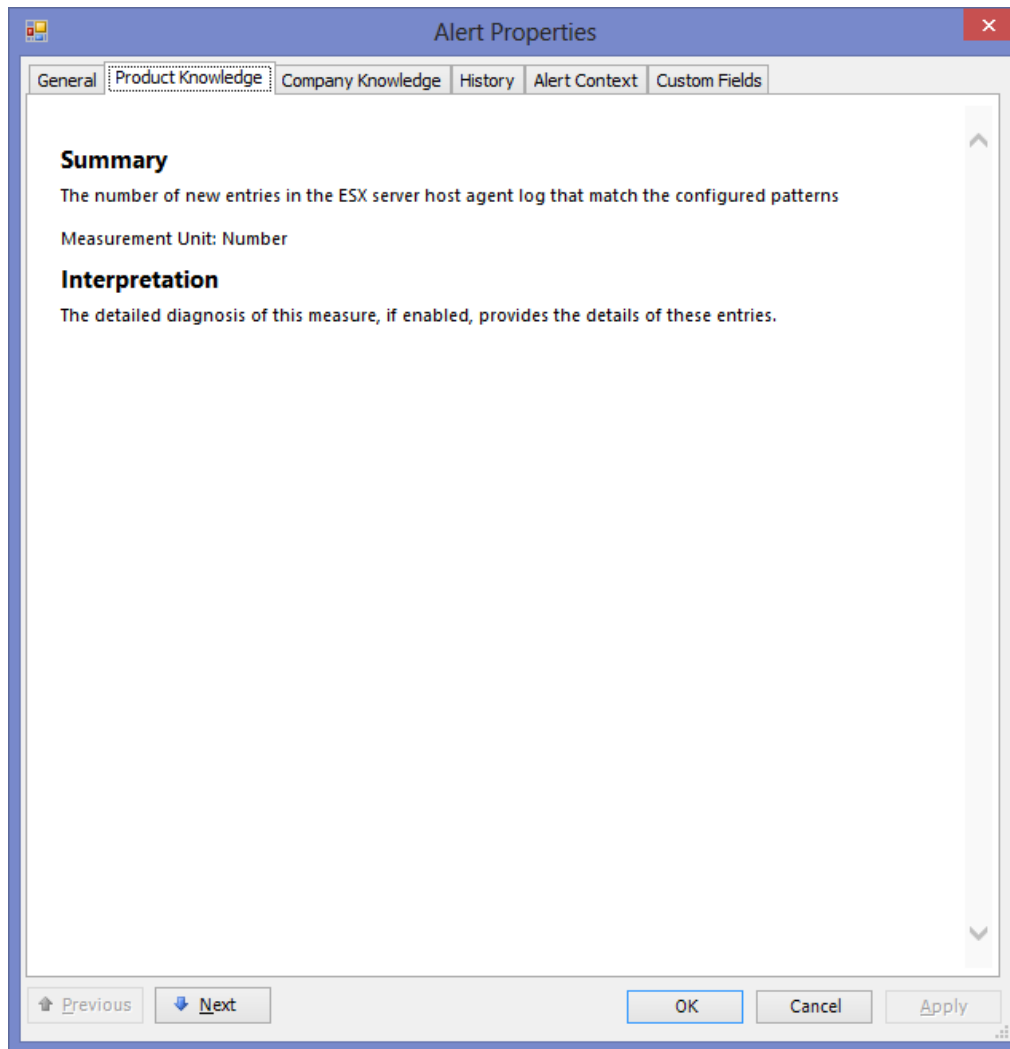

Figure 3.4: The description of a measure reported by a test
4. To understand a problem better, click on the **View additional knowledge** link and tap the knowledge base of the eG Enterprise system. The **Product Knowledge** tab page of the **Alert Properties** window will automatically open displaying the details related to the measure on which the selected alert was raised. Figure 3.4 depicts a sample **Alert Properties** window displaying the details of the **Number of system errors** measure.